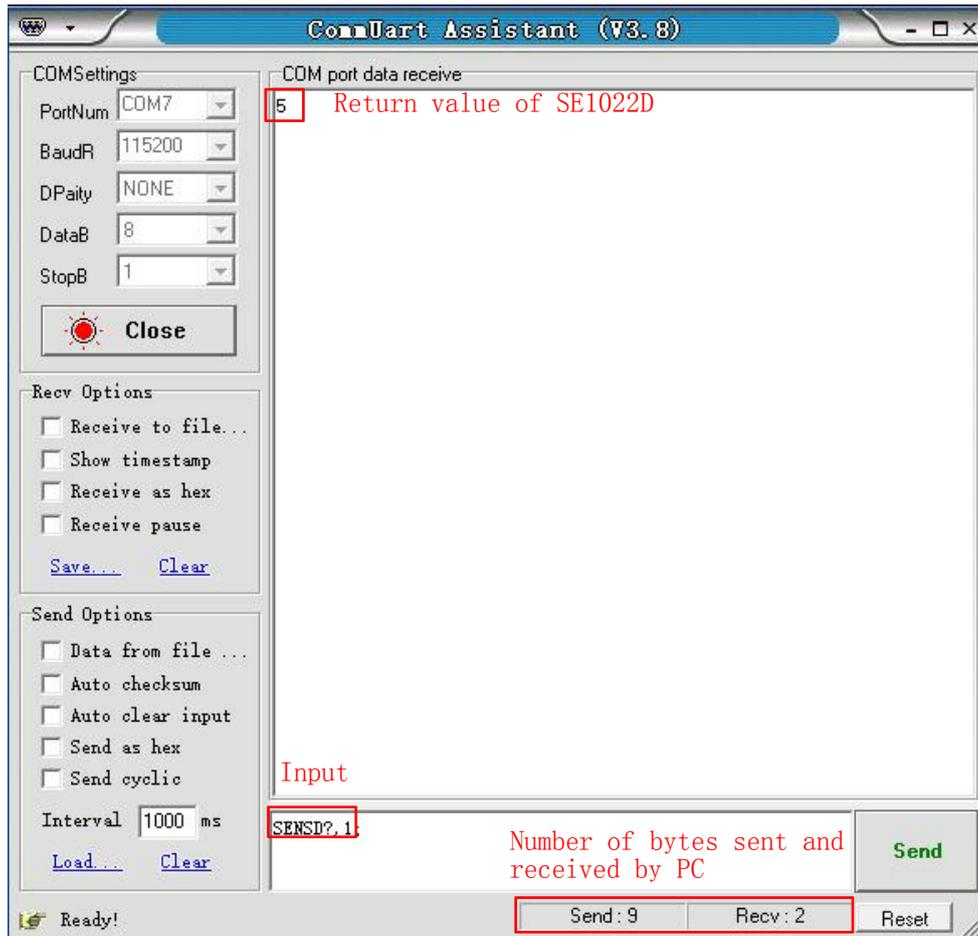
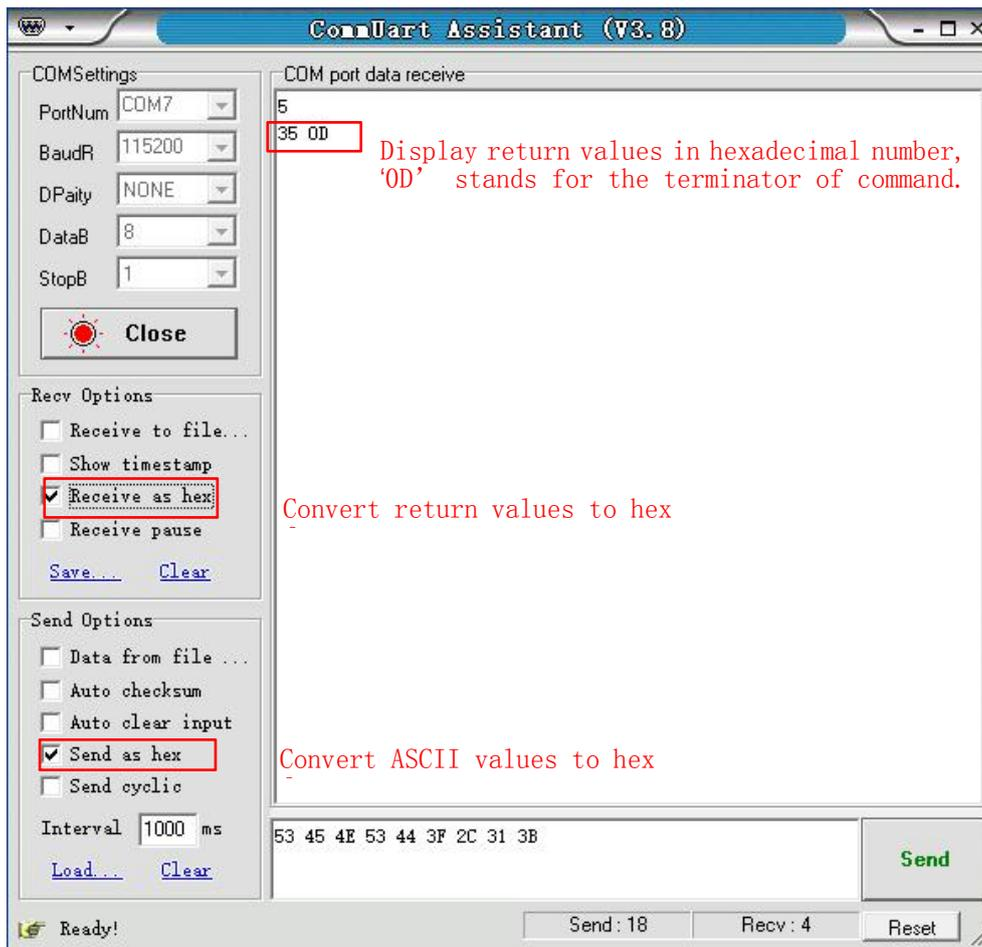

Fig.103 Send and Receive Commands in ASCII Words
Fig.104 Send and Receive Commands in HEX
(1) The command format of SE1022D is defined as follows: upper mnemonics + channel selection (1/2) + option parameters + semicolon/carriage return sign. For more details, please see ‘Chapter 4 Remote Programming’. To send commands, firstly, clear input area. Secondly, input commands in the sending area, single command can be finished by pressing the ‘Enter’ key rather than with a semicolon. Thirdly, click the ‘Send’ button to send command. As shown in Fig.103 and Fig.104.